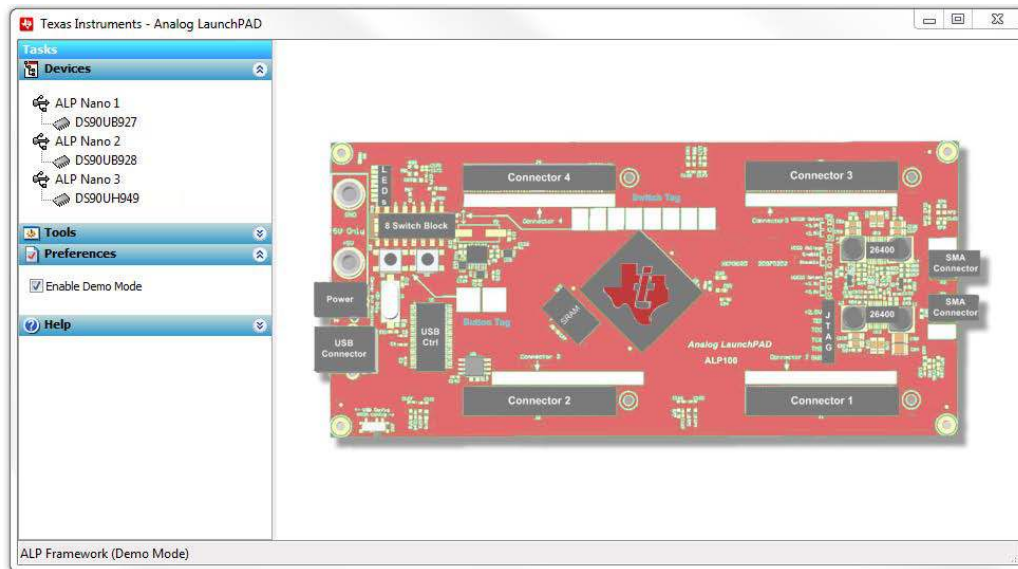

Figure 1-20. ALP in Demo Mode
2. Check to make sure the software starts with only “DS90Ux949” in the “Devices” drop-down menu. If there are more devices then the software is most likely in demo mode. When the ALP is operating in demo mode there is a “(Demo Mode)” indication in the lower left of the application status bar as shown in Figure 1-20.